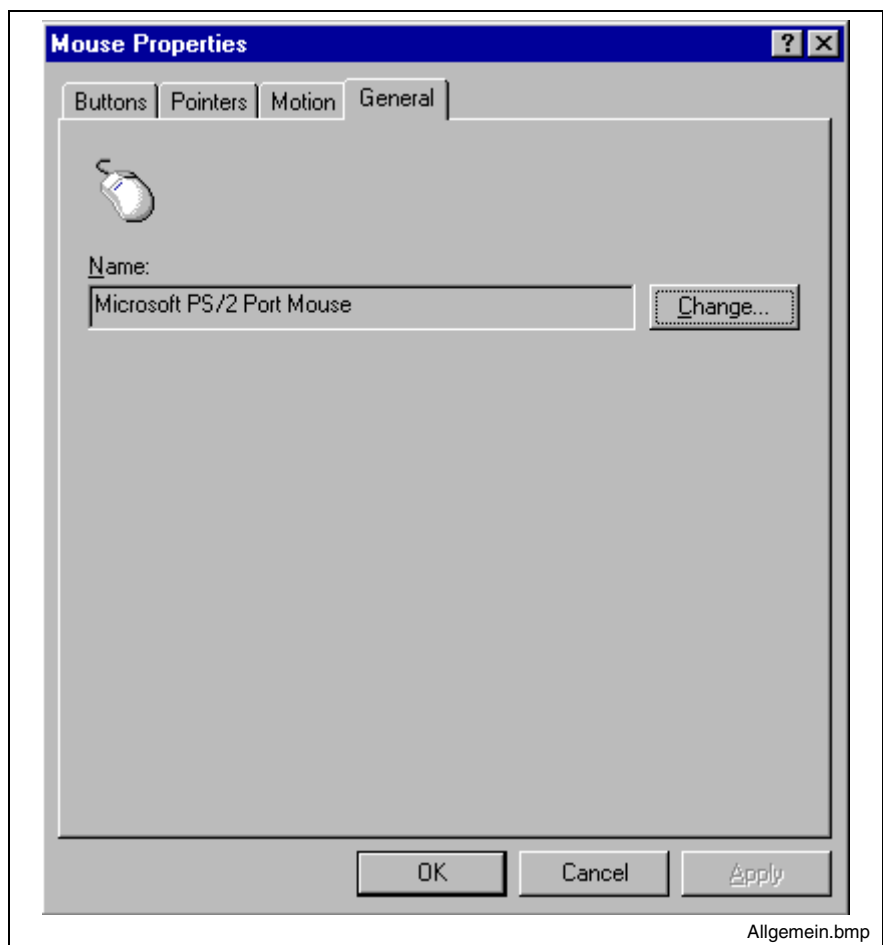

Abb. 5-3: Register button to set general mouse properties
- Abb. 5-3: Register button to set general mouse properties 5-2